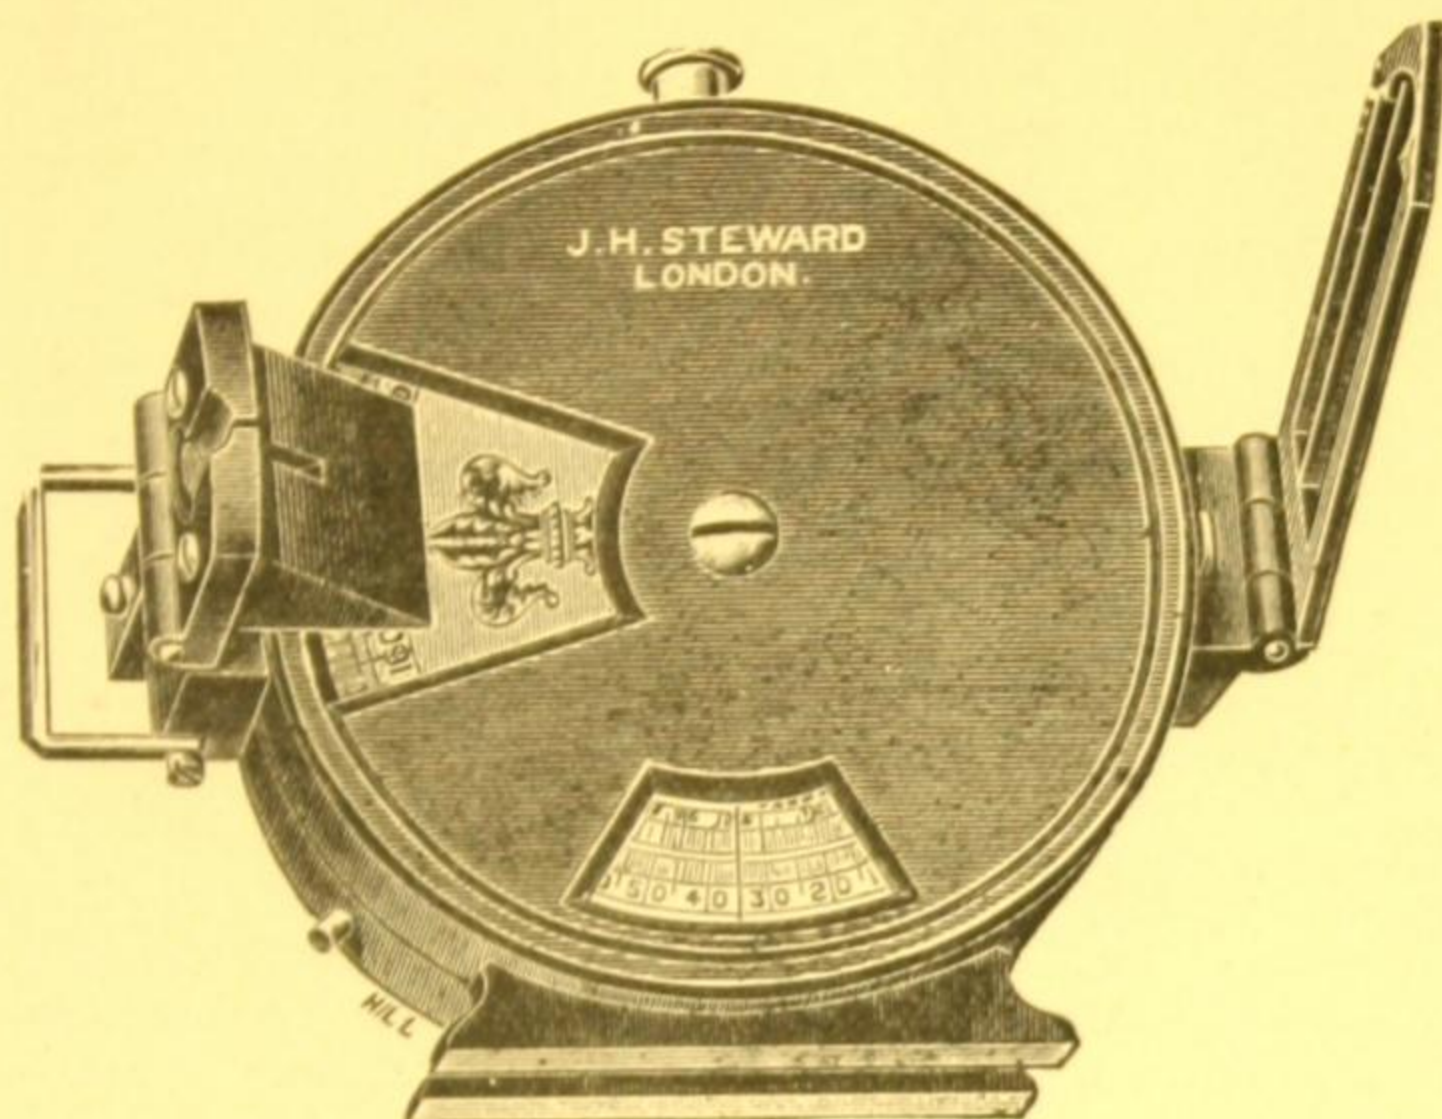

Fig. 76. Prismatic Compass and Clinometer.
**The Prismatic Altazimuth**, consisting of a prismatic compass combined with a disc clinometer, is a useful instrument for measuring angles in the horizontal plane by means of the compass, and in the vertical plane by means of the clinometer. The angle is read through the prismatic lens simultaneously with the sighting of the object. The compass and clinometer are divided to  $\frac{1}{2}$  degrees, and can be read by estimation to 15 minutes or less. The base of the instrument forms a plane of contact for ascertaining slopes and gradients and can also be used as a sight for measuring angles of slope in profile. These angles are read from a scale on the face of the clinometer disc by means of an index line etched on the glass. An additional "per centage" scale gives the ratio to the horizontal of the rise and fall of the gradient. The instrument is  $2\frac{3}{4}$  inches diameter and check and locking stops are fitted to both compass and clinometer. It can be used either in the hand or attached to a tripod. Fig. 76.